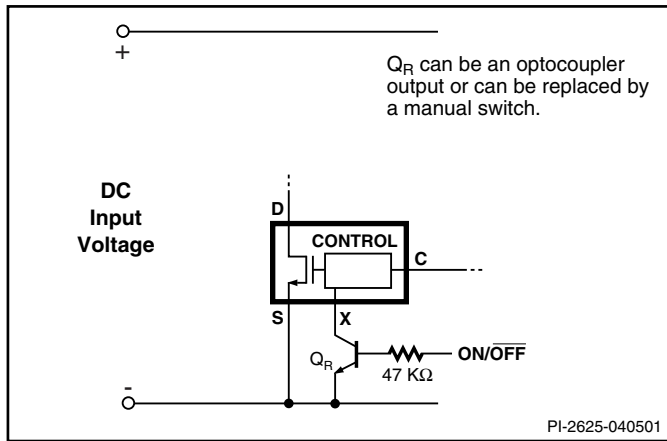
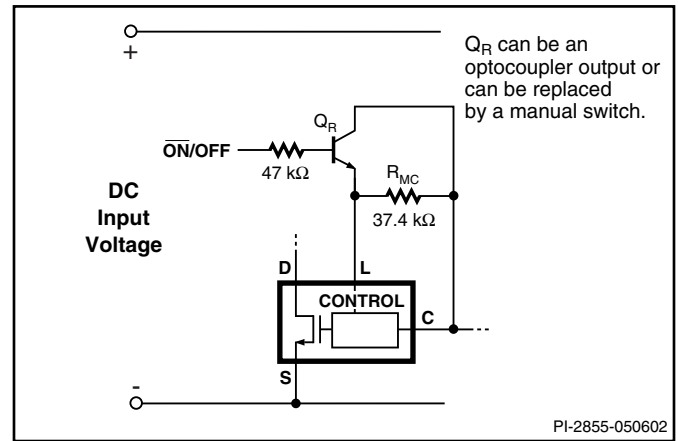

Figure 17. Active-on (Fail Safe) Remote ON/OFF.
Figure 18. Active-off Remote ON/OFF. Maximum Duty Cycle will be reduced.
*DPA-Switch* can be turned on or off by controlling the current into the LINE-SENSE pin or out from the EXTERNAL CURRENT LIMIT pin (see Figure 7). This allows easy implementation of remote ON/OFF control of *DPA-Switch* in several different ways. A transistor or an optocoupler output connected between the EXTERNAL CURRENT LIMIT pin and the SOURCE pin implements this function with “active-on” (Figures 17, 19 and 21) while a transistor or an optocoupler output connected between the LINE-SENSE pin and the CONTROL pin implements the function with “active-off” (Figures 18, 20 and 22).